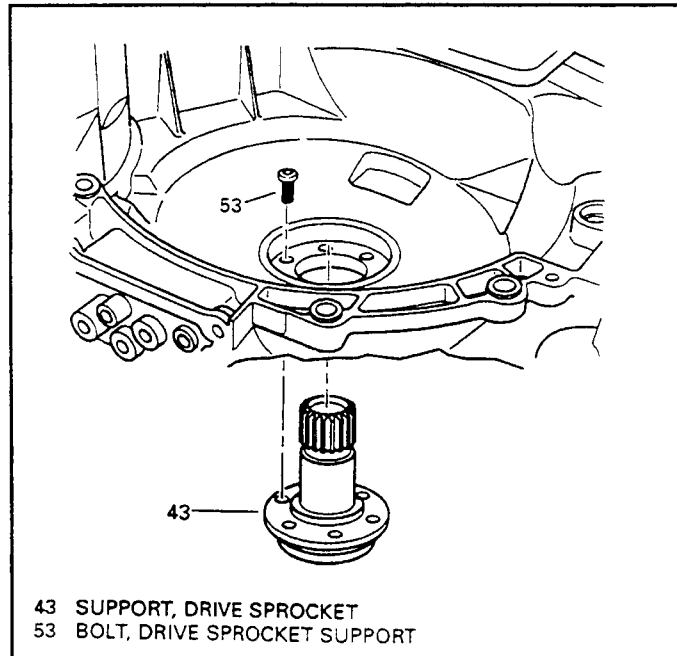

Figure 84
89. Remove the bolts from the drive sprocket support and remove drive sprocket support from the case (See Figure 84).